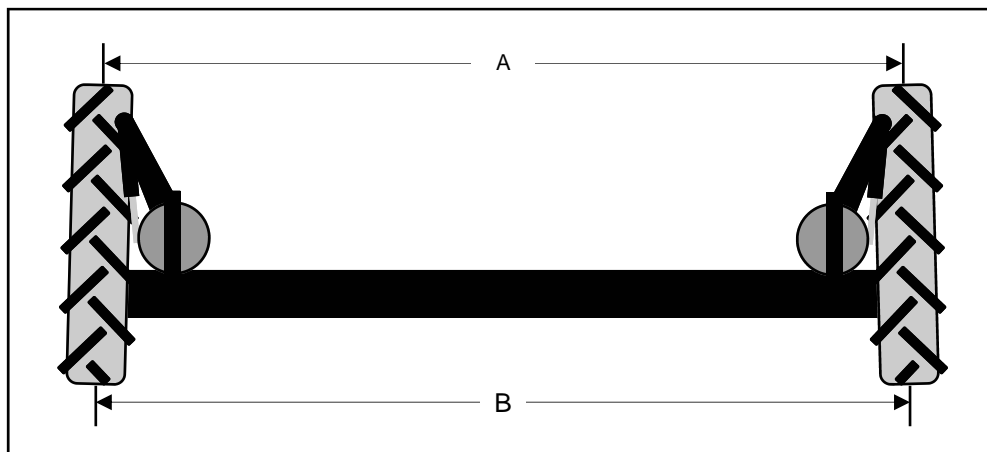

FIG 8.55
4. Move left and right tires evenly until difference in dimension "A" and "B" (fig. 8.55) are within specified range.